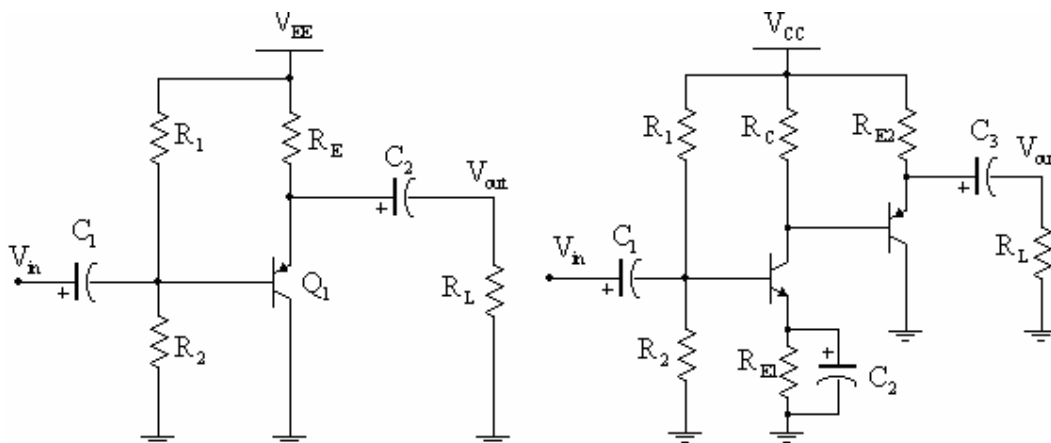

Fig.1: (a) CC with PNP Transistor
Figure 1(a) illustrates a (CC) amplifier using a PNP transistor with voltage-divider bias. Frequently, a (CC) amplifier follows a voltage amplifier. Instead of having separate bias resistor bias may be obtained through a DC path connected from the previous stage as illustrated in Figure 1(b). This technique is common in power amplifiers.
Analysis of the amplifier begins with the DC parameters. These procedures are described in Experiment 6 and summarized here for the PNP transistor shown in Figure 1(a).